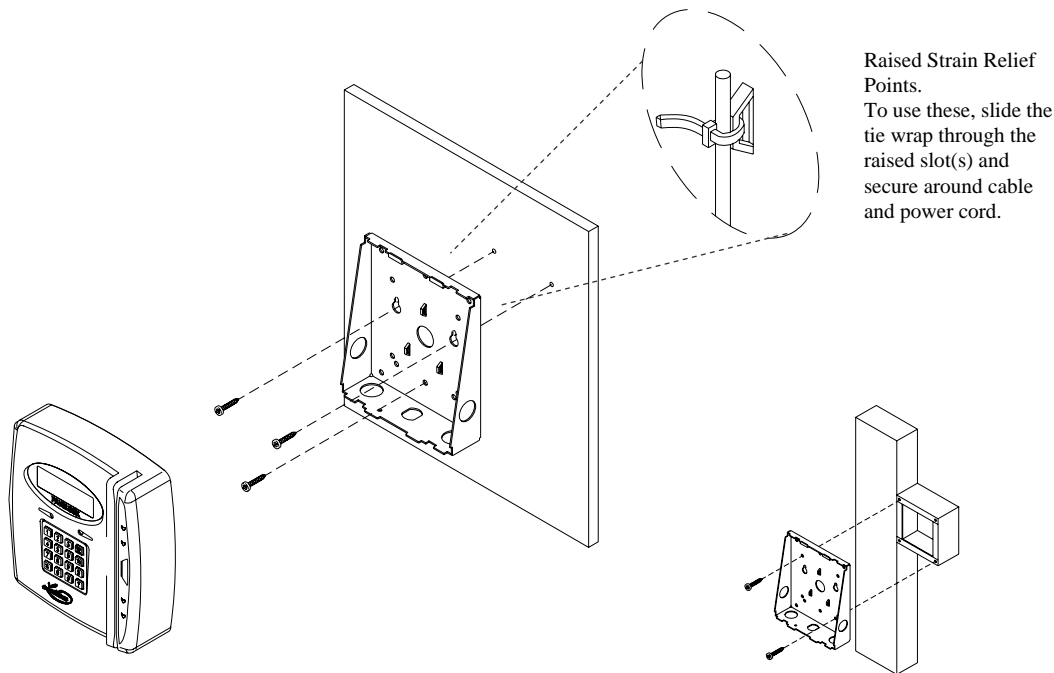

Figure 1
- ◆ Align the back box with the anchors, insert the 3 screws and tighten with a Phillips head screwdriver; see Figure 1.